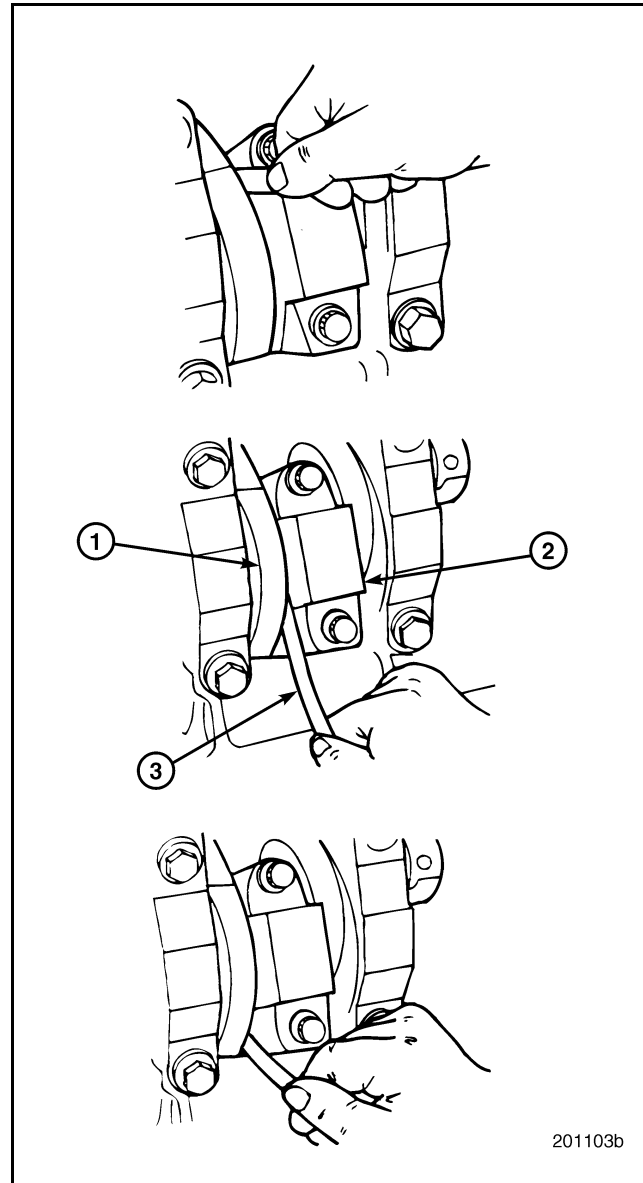

Figure 334 — Connecting Rod Side Clearance Check
8. Check the rod side clearance (Figure 334) by installing a thickness gauge between the rod and the side of the journal. Check along the entire parting line area.